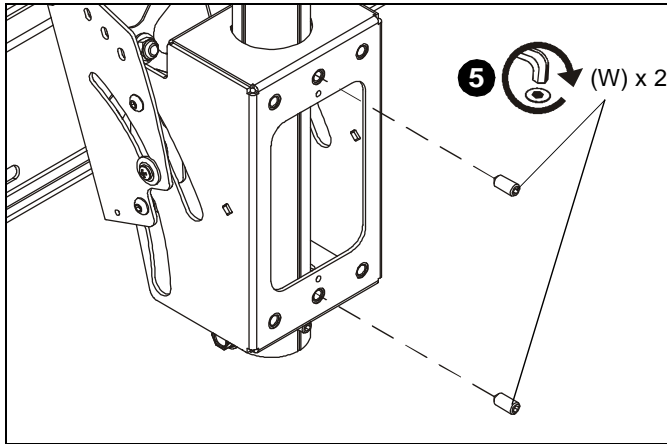

Figure 4
5. Install and tighten two 5/16" x 3/4" set screws (W) through back of mount (Z) and against column. (See Figure 4)